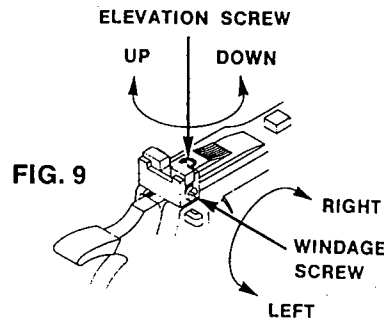

FIG. 9
B. Move the Rear Sight in the same direction you want the BB to hit on the target, Fig. 9 Elevation Adjustment: Turn screw clockwise to move point of impact up, turn screw counterclockwise to move point of impact down. Windage Adjustment: Turn screw clockwise to move point of impact to right and counterclockwise to move point of impact to left.